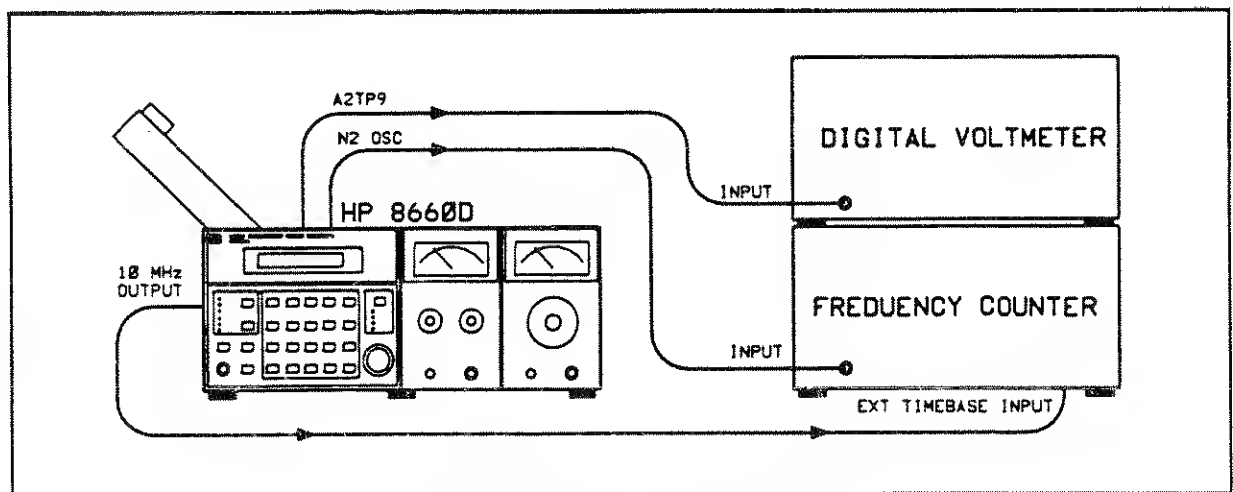

Figure 5-19. N2 Loop Test Setup
1. Set up test equipment as shown in Figure 5-19.